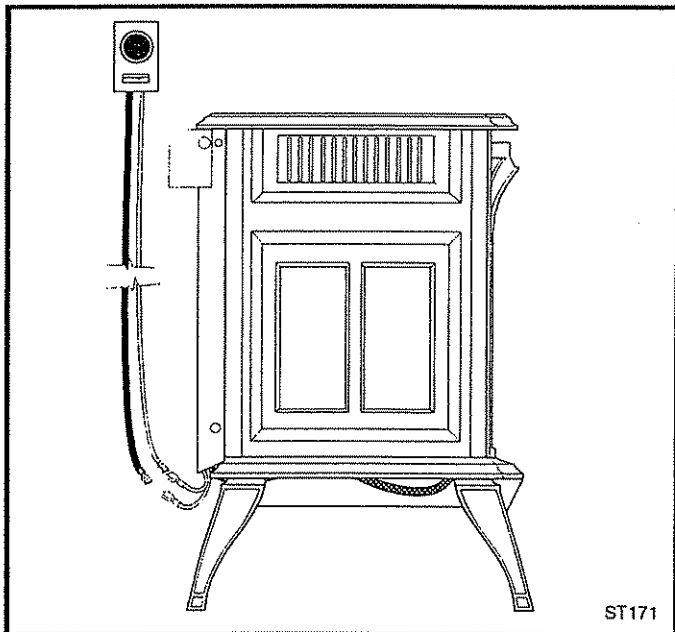

Fig. 40 Connect thermostat leads to either terminal.
2. Two leads with 1/4" female connectors extend from the wire harness accessible from under the left rear side of the stove. Either thermostat wire may be connected to either terminal. (Fig. 40)